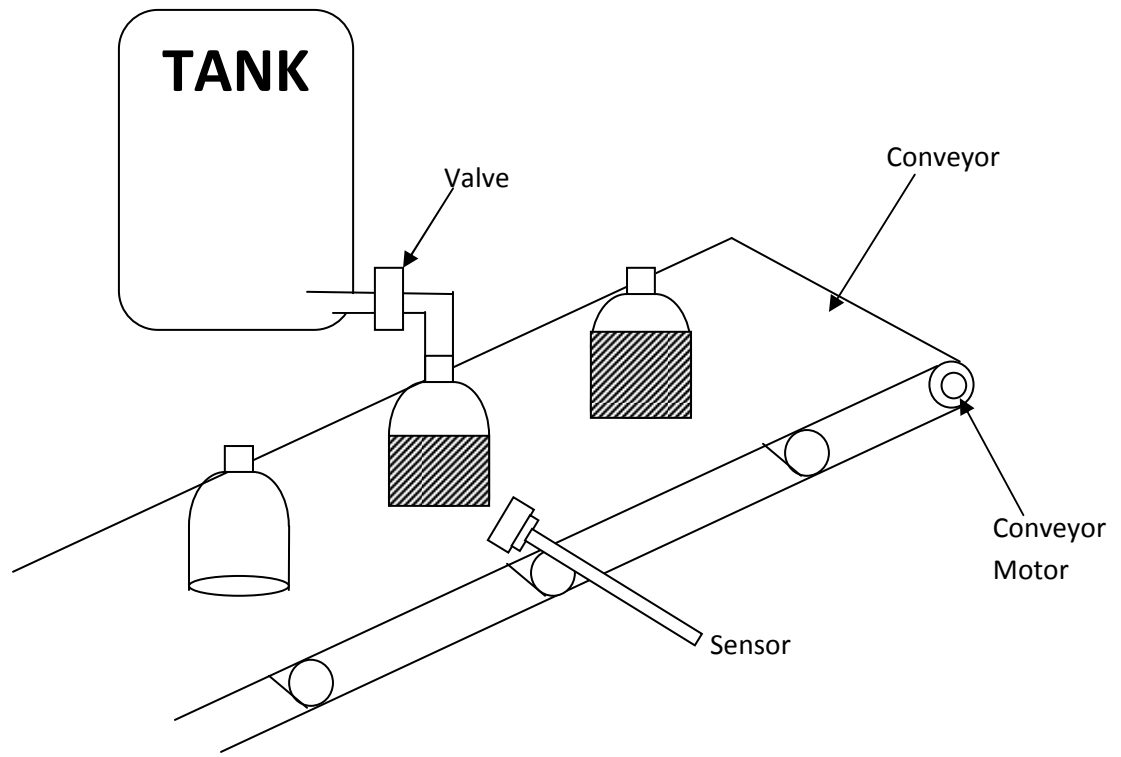

Fig.1.
- 7- Try to design a control system for automatic liquid pouring system described by the schematic diagram in **Fig.1**. The control objective is described as: